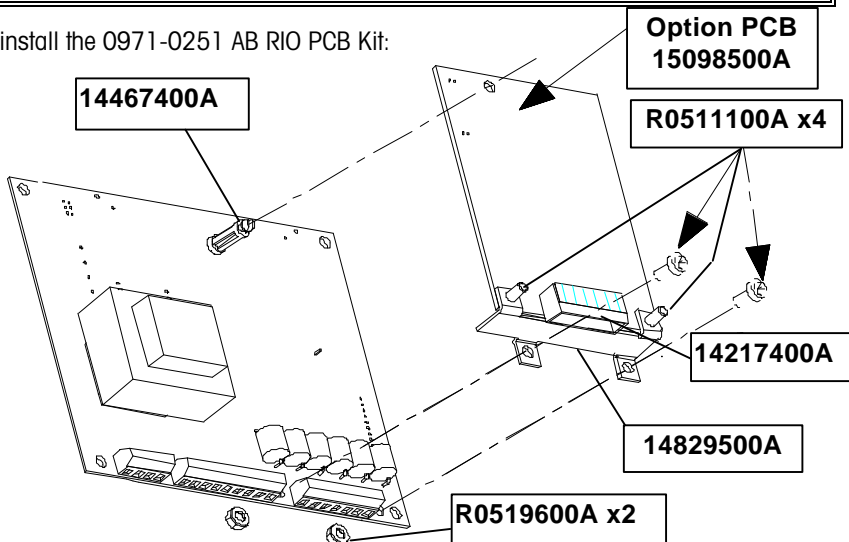

Figure 6-1 Allen-Bradley PCB Installation in Harsh Environment Enclosure
4. Press the Snap-In Standoff (14467400A) into the Controller PCB (see Figure 6-1).